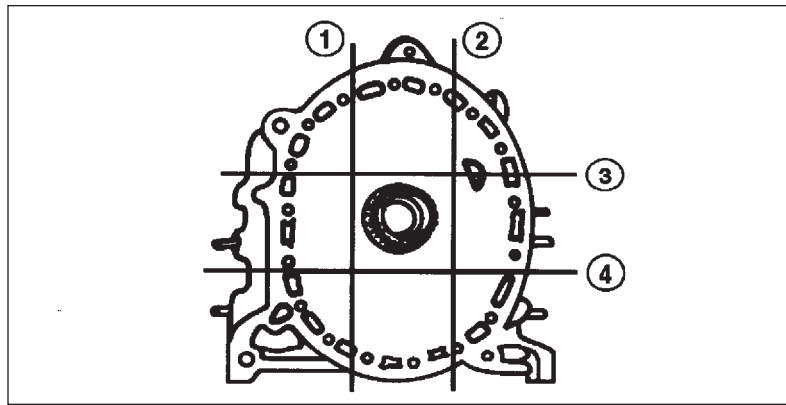

Figure 3
- b. Check the surface in the four locations shown in Figure 3. The maximum limit for warpage or distortion is 0.04 mm (0.0016"). If distortion exceeds this limit at any point on the housing, it must be replaced.